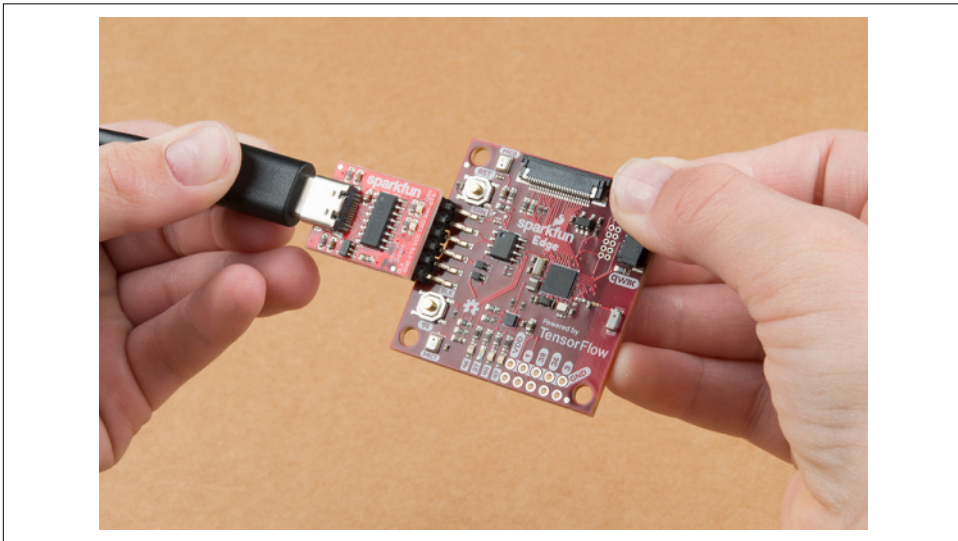

Figure 9-6. Connecting the SparkFun Edge and USB-C Serial Basic (courtesy of SparkFun)
2. Plug the SparkFun USB-C Serial Basic into these pins, ensuring that the pins labeled BLK and GRN on each device are lined up correctly, as demonstrated in Figure 9-6.